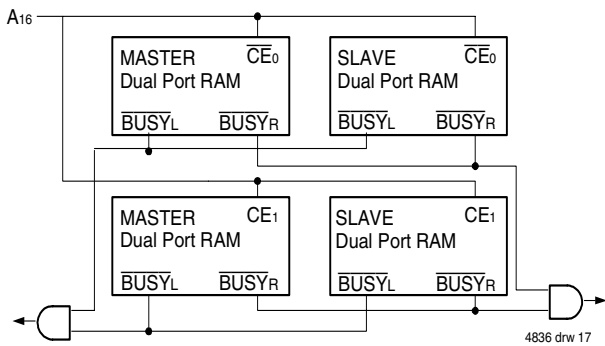

Figure 3. Busy and chip enable routing for both width and depth expansion with IDT7028 RAMs.
When expanding an IDT7028 RAM array in width while using $\overline{\text{BUSY}}$ logic, one master part is used to decide which side of the RAMs array will receive a $\overline{\text{BUSY}}$ indication, and to output that indication. Any number of slaves to be addressed in the same address range as the master, use the $\overline{\text{BUSY}}$ signal as a write inhibit signal. Thus on the IDT7028 RAM the $\overline{\text{BUSY}}$ pin is an output if the part is used as a master ($\overline{\text{M/S}}$ pin = V_{IH}), and the $\overline{\text{BUSY}}$ pin is an input if the part used as a slave ($\overline{\text{M/S}}$ pin = V_{IL}) as shown in Figure 3.
- Page 15 Removed overbar from CE1 in figure 3